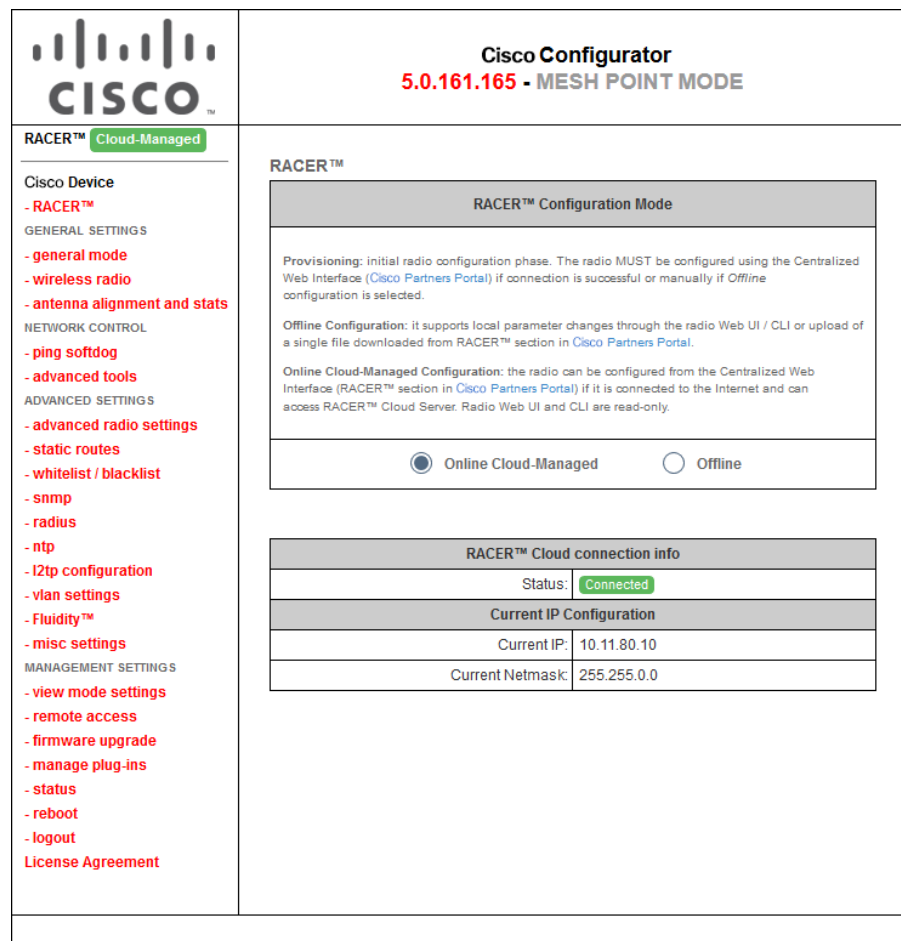

Figure 20. Cisco Configurator (landing page)
- The Configurator landing page will be shown (Figure 20 (page 58)).